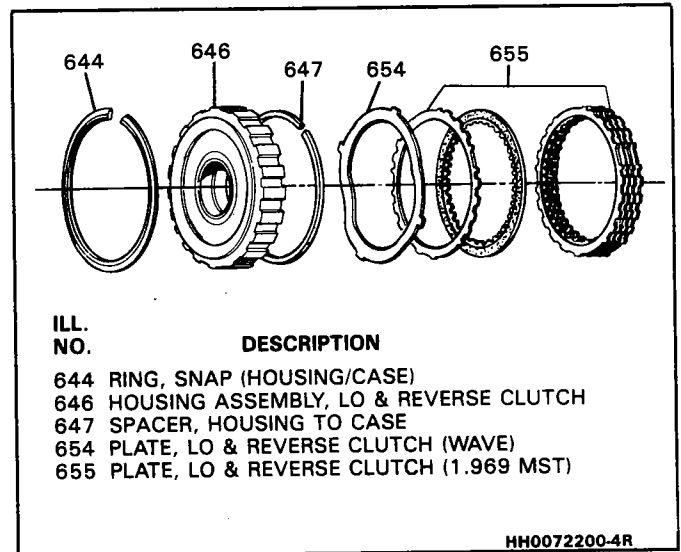

Figure 52 Lo and Reverse Clutch Assembly
**Assemble (Figure 52, 53 and 54)**